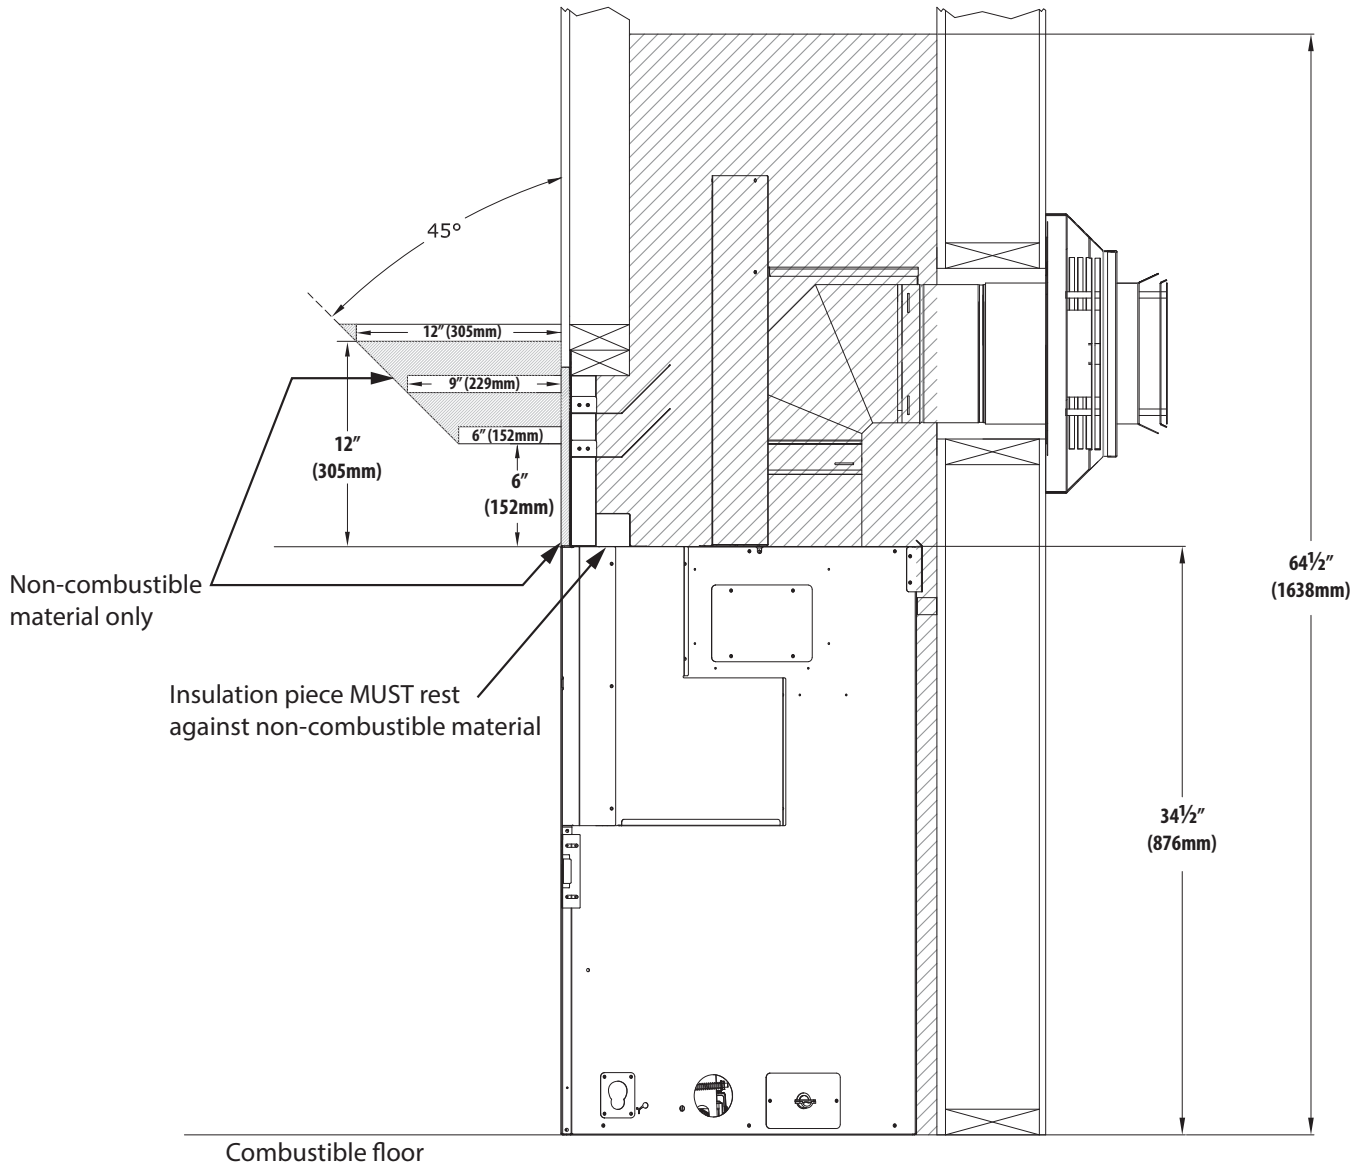

Figure 4.2, Non-Combustible Mantel Requirements
- **Non-combustible Mantel Projections** - Minimum Vertical and Maximum Horizontal: A minimum vertical clearance of 6" (152mm) above the top of the appliance to a maximum 6" (152mm) depth of a non-combustible mantel. Follow projection 1" (25mm) up for every 1" (25mm) deeper. See Figure 4.2 on page 24.